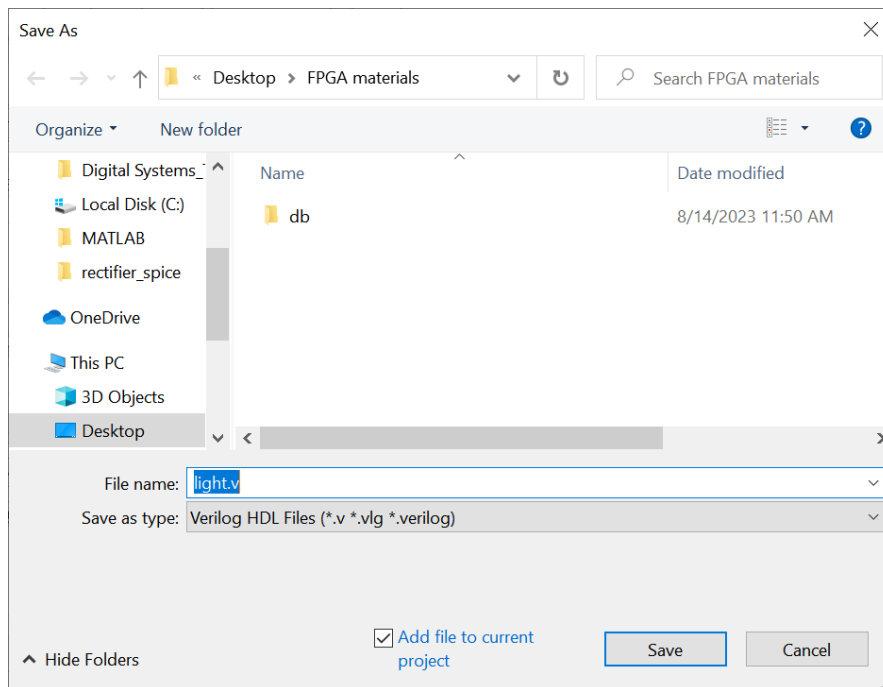

Figure 12. Name the file.
- Select **File > Save As** to open the pop-up box depicted in Figure 12.